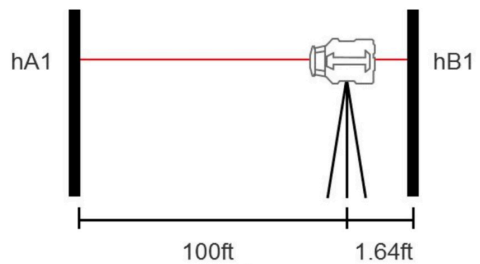

Figure 3
3. Then re-install the unit to close to the other wall as shown below (Figure 3), repeat step 2 and mark the points as $hA1$ and $hB1$. Calculate $\Delta 1 = hA - hB$, $\Delta 2 = hA1 - hB1$. The difference between $\Delta 1$ and $\Delta 2$ should be within $\pm 1/8$ in.